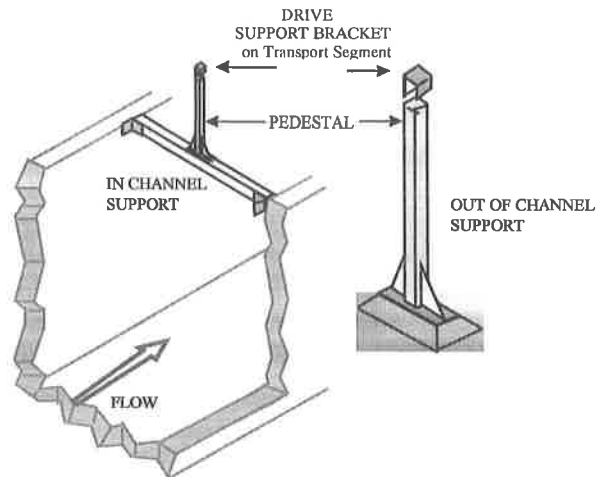

FIGURE 2-5 INSTALLATION SUPPORT BRACKET
- K. Secure the bracket, located on the underside of the discharge segment, to the drive-end pedestal. Refer to Figure 2-5. The drive-end pedestal is fastened to the in channel/out of channel support as defined for the installation.